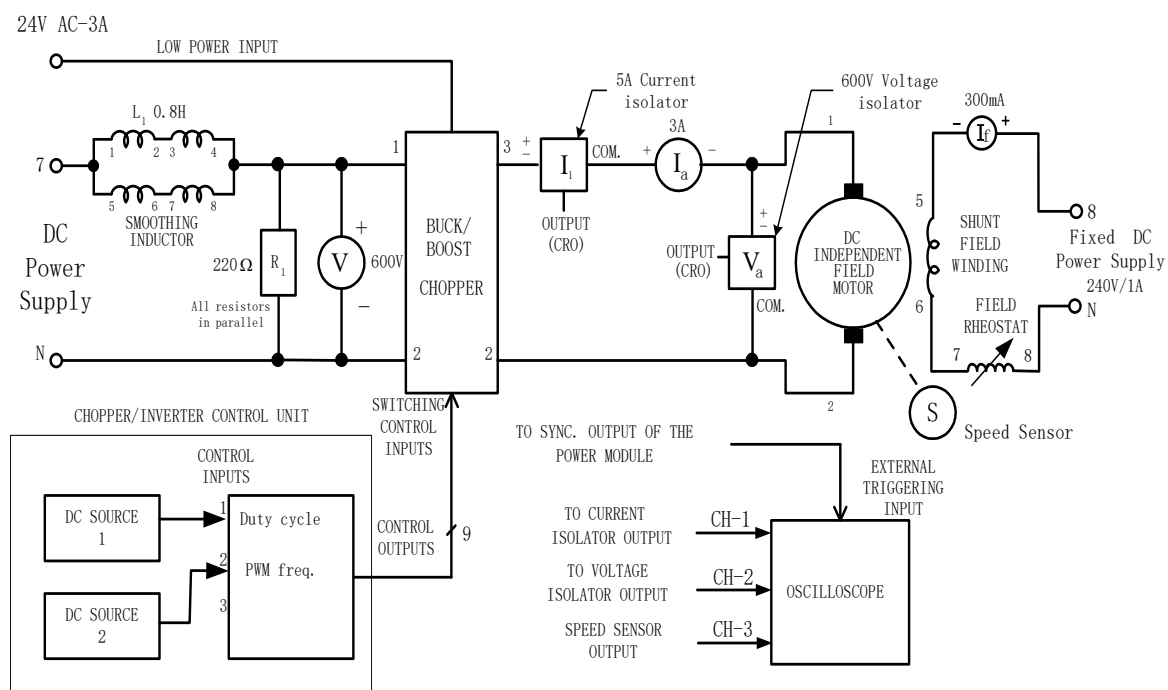

Figure.3: Circuit of a two quadrant converter driving a dc motor drive system
2. Using the output of the three-phase diode bridge rectifier as the main DC power supply for the dc motor driver circuit, connect the driver circuit as shown in Figure.3